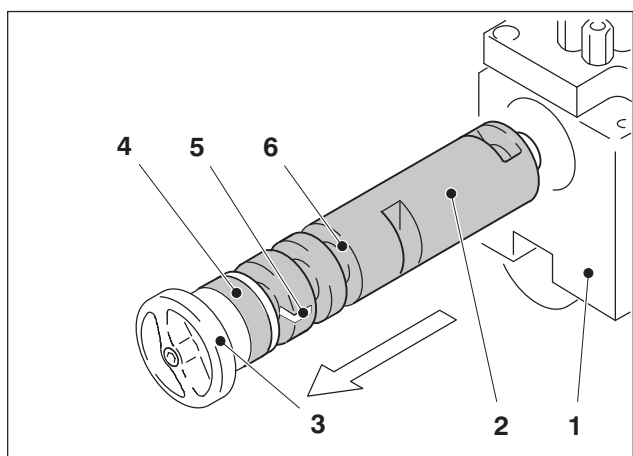

Fig. 18 Rotary valve, valve ports, and surface
1. Press the cover plate (Fig. 18/3) slightly towards the inside and remove it by turning it anti-clockwise.
2. Pull out the rotary valve (Fig. 18/2), together with the cover plate (Fig. 18/3).
3. Clean the valve ports and the surface at the rotary valve (Fig. 18), and the bearing surface (Fig. 18/4).
4. For installation, set the mark (Fig. 18/5) on the rotary valve to the 3-o'clock position. Insert the rotary valve into the suction head housing (Fig. 18/1). Turn the cover plate clockwise to lock it.